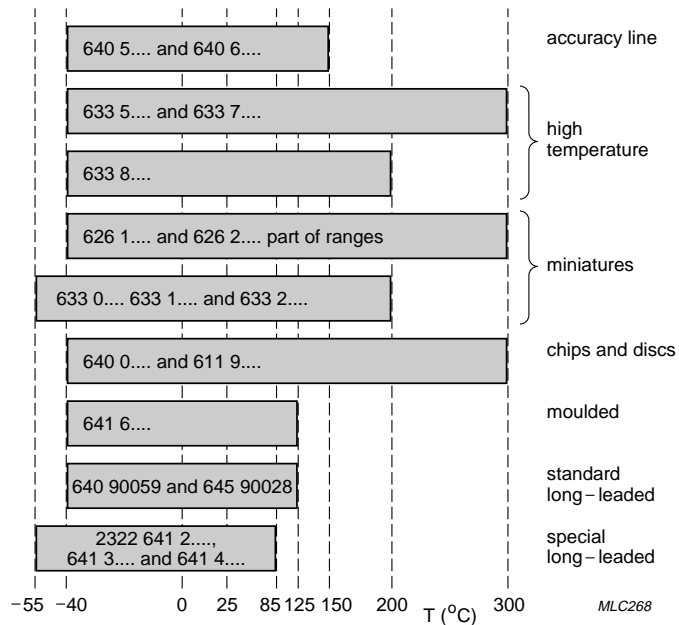

Fig.27 Temperature selection chart for the standard NTC temperature sensor ranges.
1. What temperature range is required? Refer to Fig.27.
Figure 27 shows that all our sensors will operate over the temperature range from 0 to 100 °C.
The high-temperature requirement (see Fig.27) restricts the choice of leaded sensors to 2322 626 1.... or 626 2.... or 633 8.... sensors.